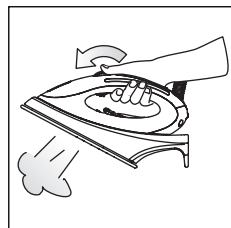
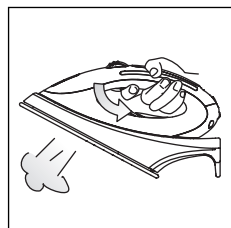

fig. 11
fig. 12
- To obtain steam for ironing, rotate the steam wheel on the iron handset forwards (fig 11). The wheel can be rotated from the top or the bottom of the handset (fig.12); choose whichever is most comfortable for you.